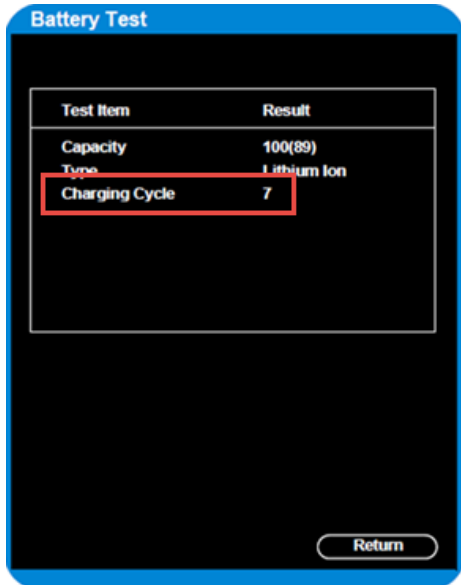

Figure 3 Battery Test Screen
The **Battery Test** screen provides detailed information about battery capacity and charging status. If the charging cycle count exceeds the recommended limit of **300 cycles** or is older than **three (3) years**, the battery will need to be replaced (see cycle count in Figure 3).